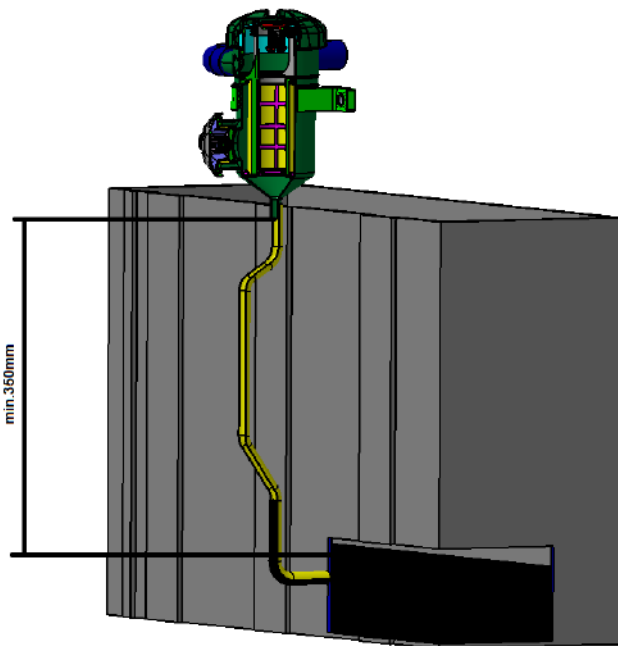

Fig. 2 Minimum distance from oil level to oil return fitting
For the ProVent system to function properly, the minimum distance of the oil level from the oil return fitting (6) of the ProVent housing must be at least 350 mm (see Fig. 2).
For the ProVent system to function properly, the minimum distance from the non-return valve to the oil return fitting (6) of the ProVent housing must be at least 350 mm (see Fig. 2).